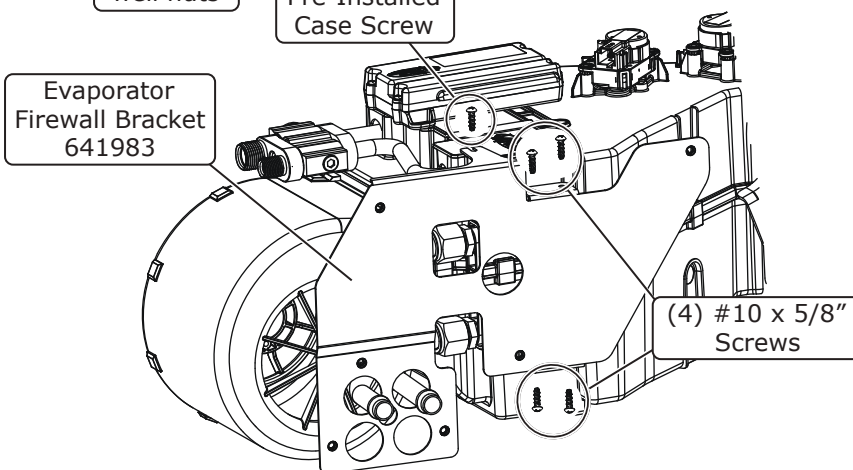

Figure 6
5. Install the evaporator firewall bracket using (4) #10 x 5/8" screws and (1) pre-existing evaporator case screw as shown in Figure 6, below.